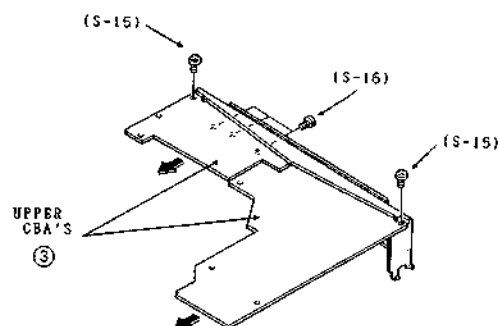

Fig. 18
- Undo the screws S-15 and S-16 (Fig. 18).